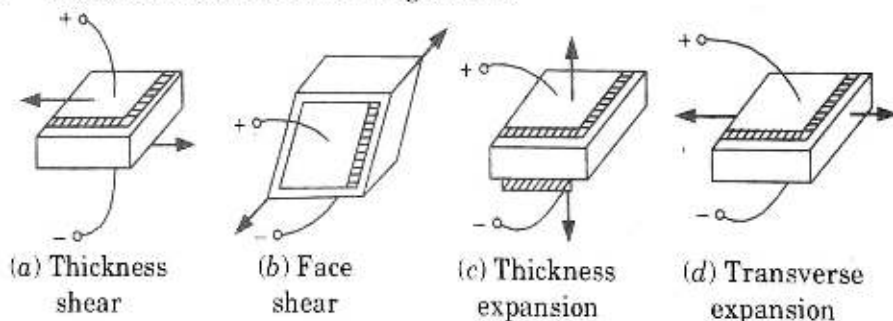

Fig. 5.14.1. Modes of operation of piezo-electric transducers.
8. These modes are shown in Fig. 5.14.1.